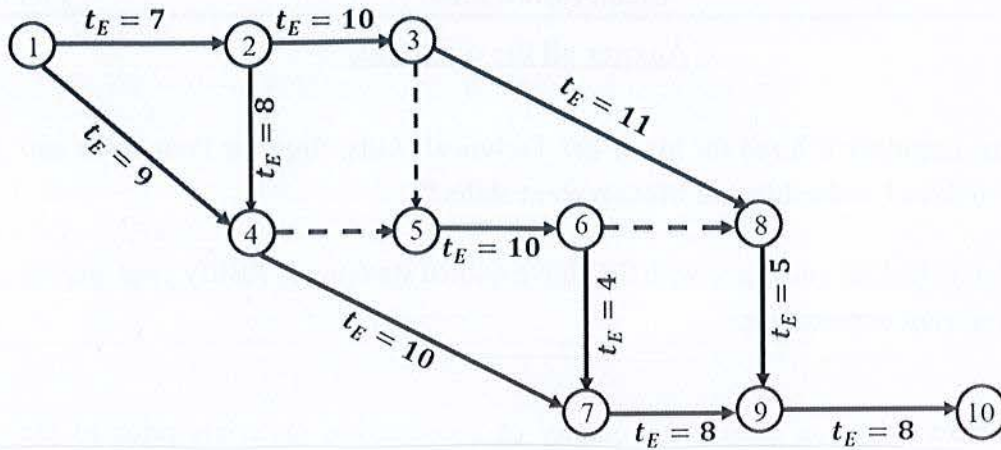

Figure 1
4. A construction company has an opportunity to submit a bid for the construction of a new factory building. From the specification provided by the client, the PERT Network along with the expected completion time (in weeks) for each activity is shown in Figure 1.